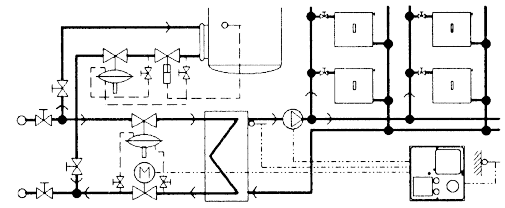
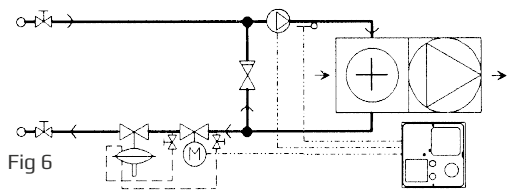
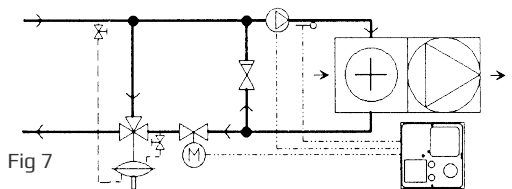

Fig 5
Fig 6
Fig 7
The TD-controls also apply for heating systems with heat exchangers see **fig. 5**. When temperatures have to be kept within close limits e.g. in ventilating plants, control may be difficult if the differential pressure in the system is not constant or is very high. This can be overcome by installing a TD-control in front of one or more places to be controlled. Examples are shown in **fig. 6**, and **7**.
**Fig. 6** is for district heating, direct supply, whereas **fig. 7** is for boiler supply. Note that a by-pass is established by a 3-way valve and a TD control.